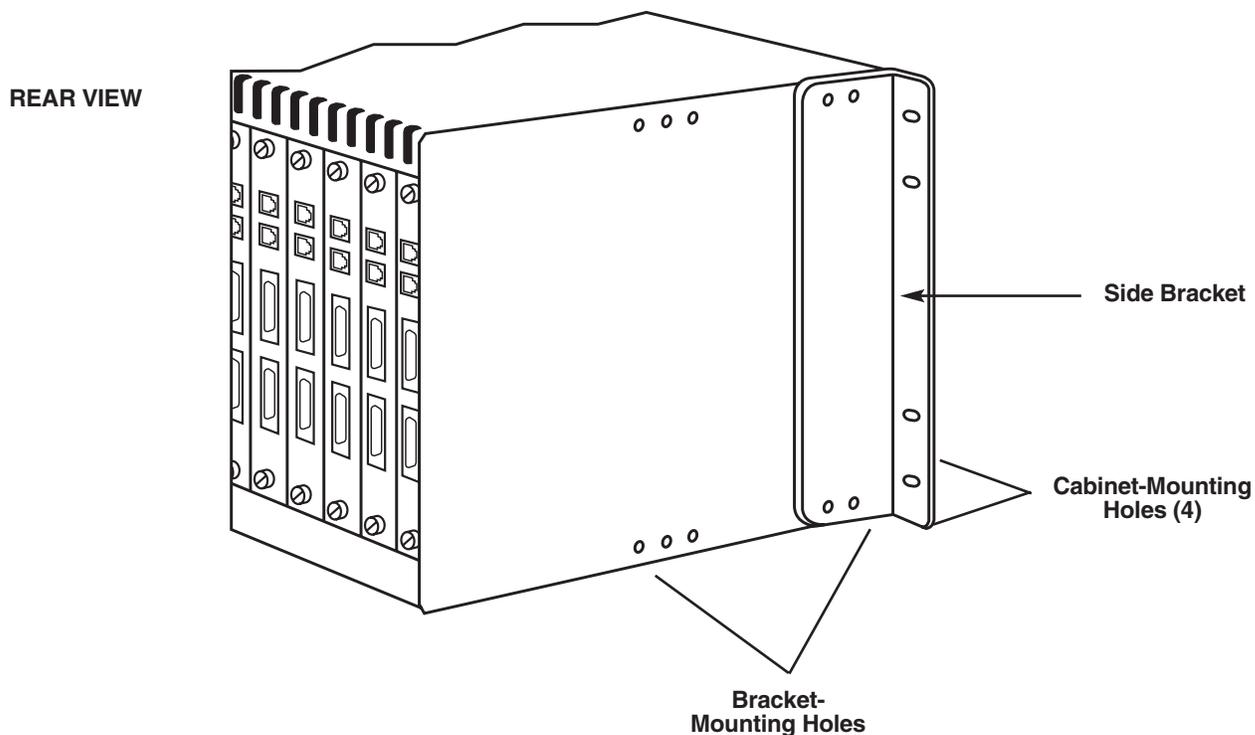

Figure 3-1. Installing the Side Brackets.
1. Select the set of chassis mounting holes you will use to install the side brackets. These holes are located on each side of the chassis and allow the WAN Rack 16 to be installed at three different cabinet depths. See Figure 3-1.
2. Working on either the left or right side of the chassis, align one of the two side bracket's four pre-drilled holes over the set of holes chosen from Step 1. See Figure 3-1.
3. Secure the side bracket to the chassis using the four slotted screws provided. See Figure 3-1.